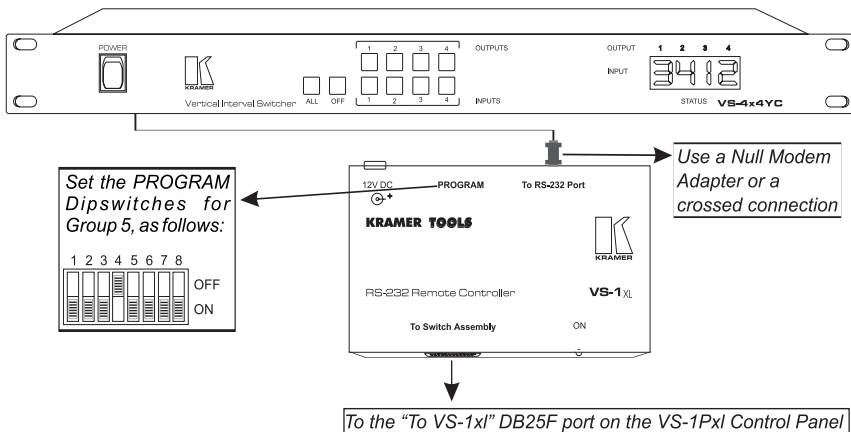

Figure 3: Setting the PROGRAM Dipswitches on the VS-1xl (an example)
2. In Table 3 (Group Dipswitch Settings), the PROGRAM dipswitch settings for Group number 5 are listed as the example in Figure 3 illustrates.